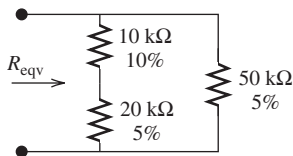

FIGURE P14.2 Resistor network.
- 14.2 (A) For the resistor network of Figure P14.2, find the minimum and maximum tolerable equivalent resistance (R_{eqv}).